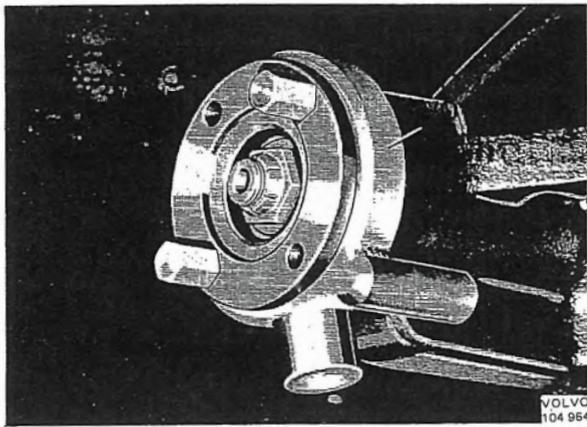
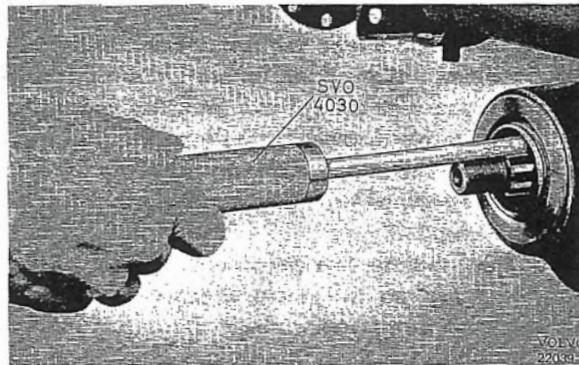
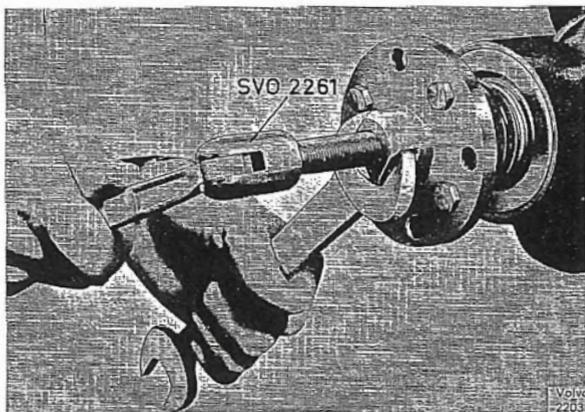

Fig. 4-130. Counterhold for flange
Fig. 4-132. Removing oil seal
Fig. 4-131. Removing flange
2. Remove the nut for the flange. For this purpose, use tool 2837 as a counterhold for cars fitted with B 20 E and 2854 for cars fitted with B 20 F, see Fig. 4-130. Pull off the flange with puller 2261, see Fig. 4-131. Pull out the old oil seal with puller 4030, see Fig. 4-132.
- B 20 F, see fig. 4-130. Pull off the flange with puller 2261, see Fig. 4-131. Press out the pinion.